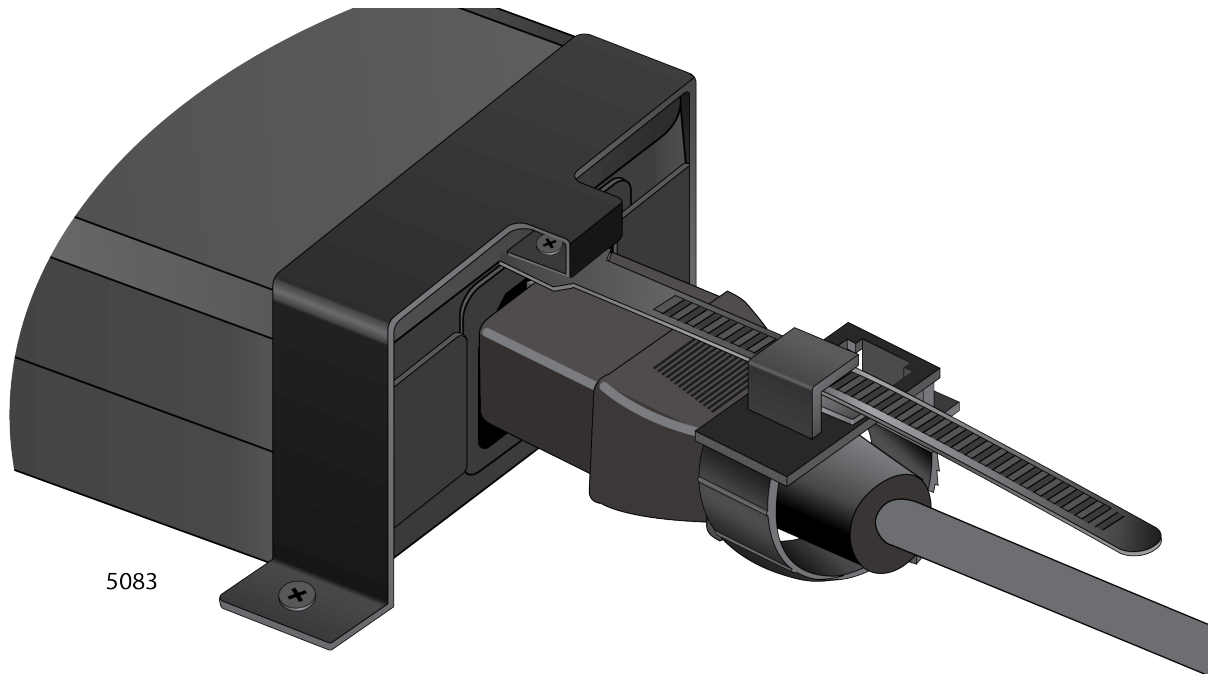

Figure 19. Securing the Power Connector to the Power Adapter
4. Pull the edge of the cable tie and fasten the clamp to secure the power connector to the power adapter. See Figure 19.